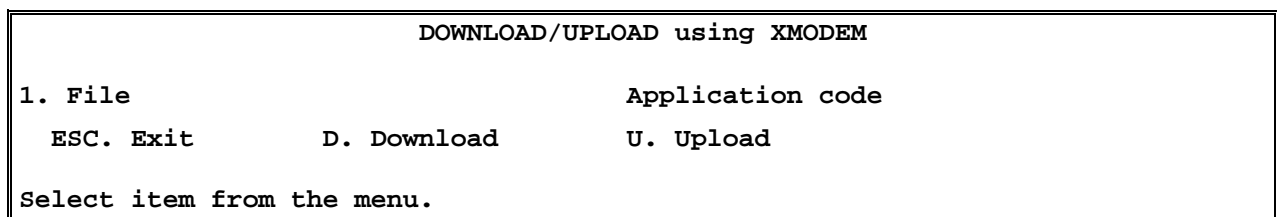

Figure 4-24. Download/Upload Using XMODEM Menu
1. Follow the path above to display the Download/Upload Using XMODEM menu (see Figure 4-24).